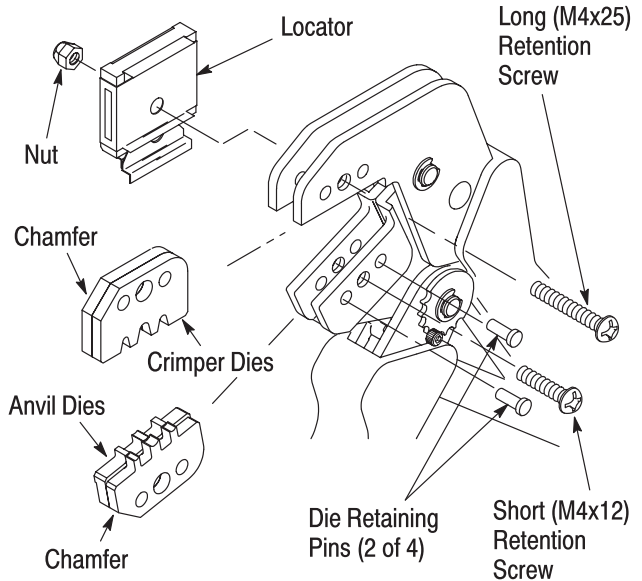

Figure 3
**3.2. Pinned Dies (Figure 3)**